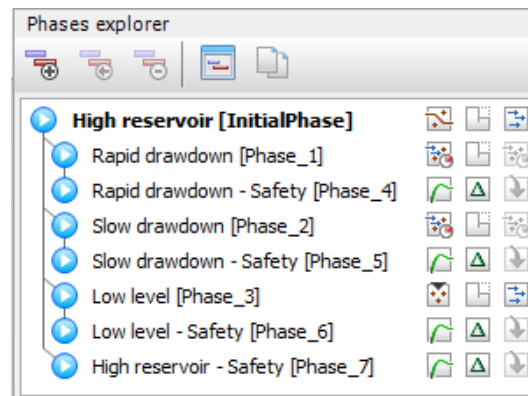

Figure 119: The final view of the Phases explorer
7. Follow the same procedure for Phases 5 to 7 as shown in Figure 119 (on page 146).